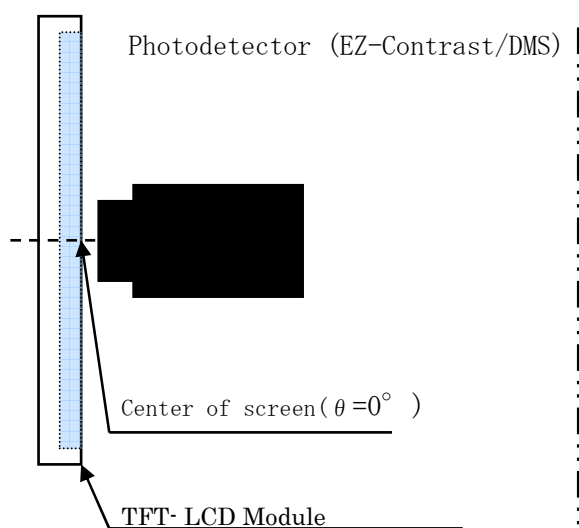

fig.12-1 Viewing angle / Range measurement method
*Measuring after 30minutes operation. The measurement of the optical character is measured by using the method of fig.12-1 and fig.12-2 under the condition which is equal to the darkroom or the darkroom.